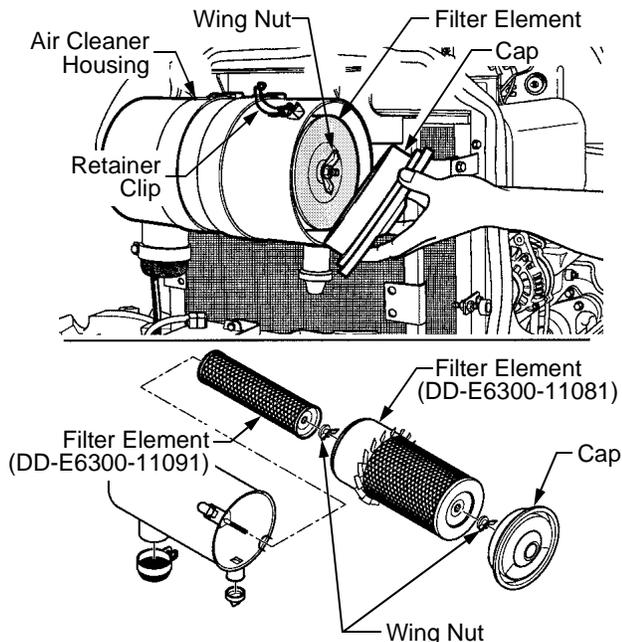

Figure 64
- Unclip the two retainers to remove the cup and wipe out any build-up of dust. See Figure 64.
- Remove the wingnut and carefully withdraw the filter element from the housing. See Figure 64.
- Remove the second wingnut and carefully withdraw the secondary filter element from the housing. Gently blow or brush any dirt from the element. Refer to Figure 64.